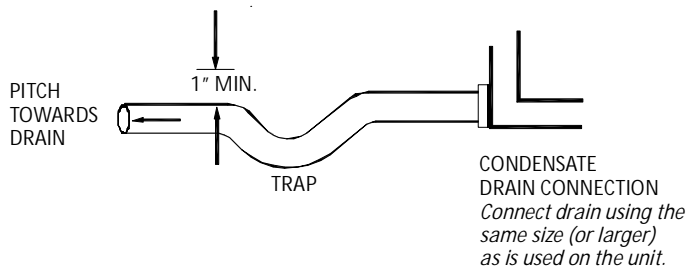

Figure 14
- In a blow-through application, the drain trap prevents conditioned air from escaping. It is permissible in this application to use a shallow trap design, sometimes referred to as a running trap. The depth of a running trap (Figure 14) should be either 1" or a depth that permits unrestricted condensate drainage without excessive air discharge.